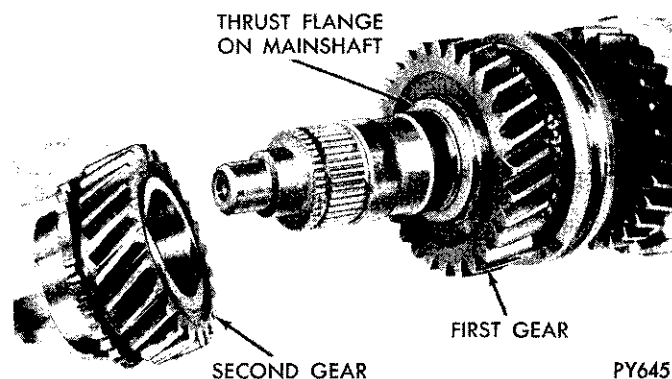

Fig. 16—2nd Gear—Removal or Installation
(3) Remove 2nd gear from mainshaft (Fig. 16).
(21) Place second gear over front of mainshaft with thrust surface against flange (Fig. 16).